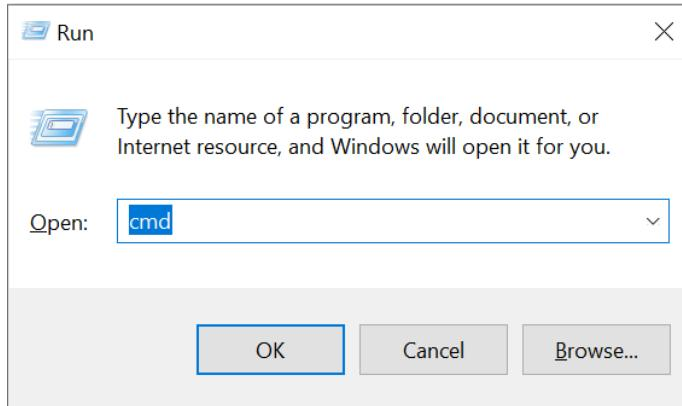
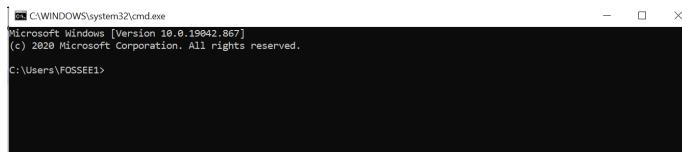

Figure 3.25: Launching the Command Prompt on Windows
Figure 3.26: Command Prompt on Windows
- Launch the Command Prompt. Press the Windows key+R together. A window, as shown in Fig. 3.25 appears. In the text box adjacent to **Open**, type **cmd**, and press Enter. The Command Prompt, as shown in Fig. 3.26 appears. By default, it points to the home directory.
1. Launch the Command Prompt, as shown in Fig. 3.25.